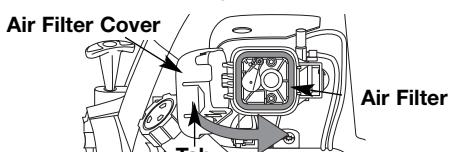

Fig. 30
7. Reinstall the air filter cover. Position the hooks on the left side of the air filter cover into the slots at the left side of the back plate (Fig. 30).
8. Swing the cover to the right until the tab on the air filter cover snaps into place in the slot on the back plate (Fig. 30).